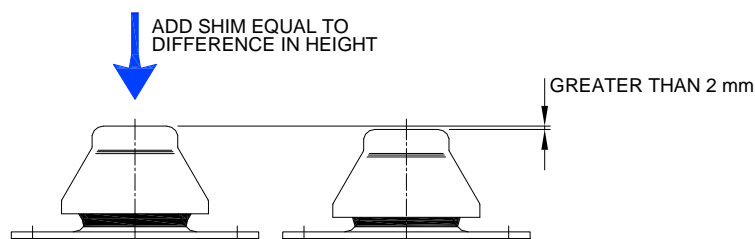

Figure 2
5. If the measurements are outside the criteria, use suitably sized shims between the mounting and engine/generator brackets based upon the following example shown in Figure 2.